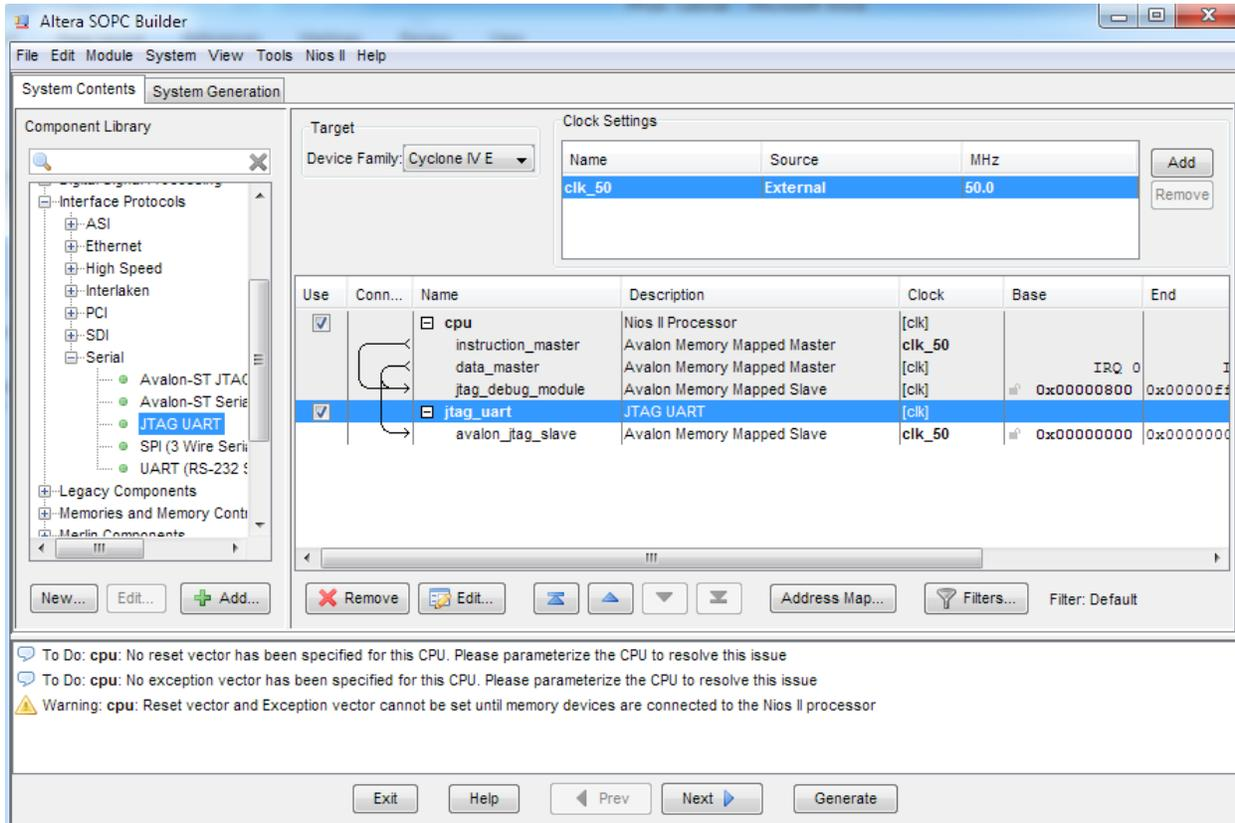

Figure 1-22 Rename JTAG UART
13. Choose jtag_uart_0 and rename it to jtag_uart as shown in Figure 1-22.